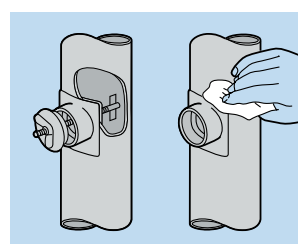

Fig.5
- Insert toggle bolt and screw up until boss is fully closed with flanges in contact with the pipe both inside and outside. (Fig.5).